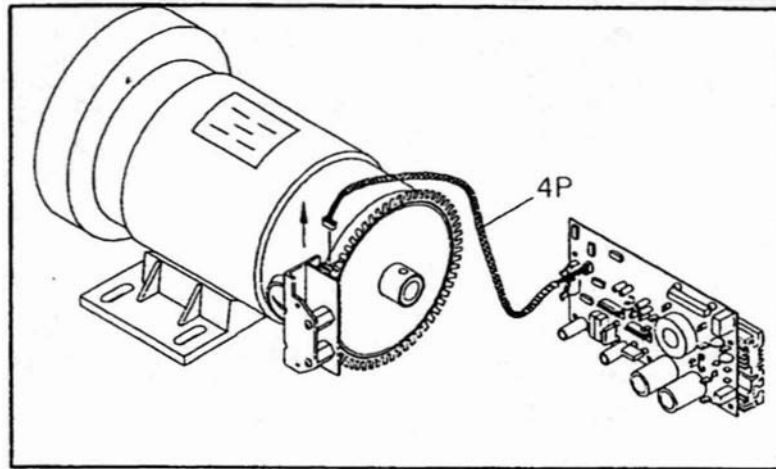

Fig.1
2. Disconnect the 4 pin cable from optical switch. (see Fig.1)